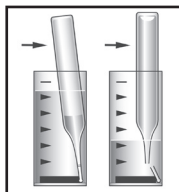

Figure 3
3. **Immediately** place the Vacu-vial ampoule, tip first, into the sample cup. Snap the tip. The ampoule will fill leaving a bubble for mixing (fig. 3).